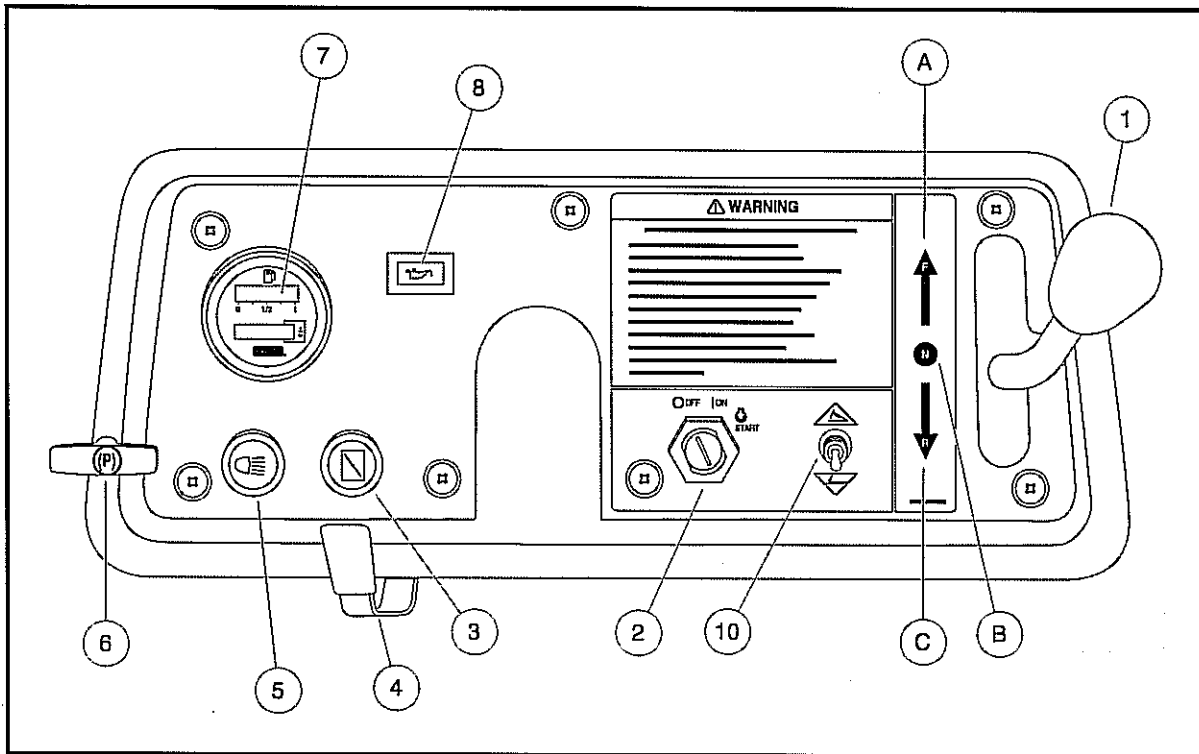
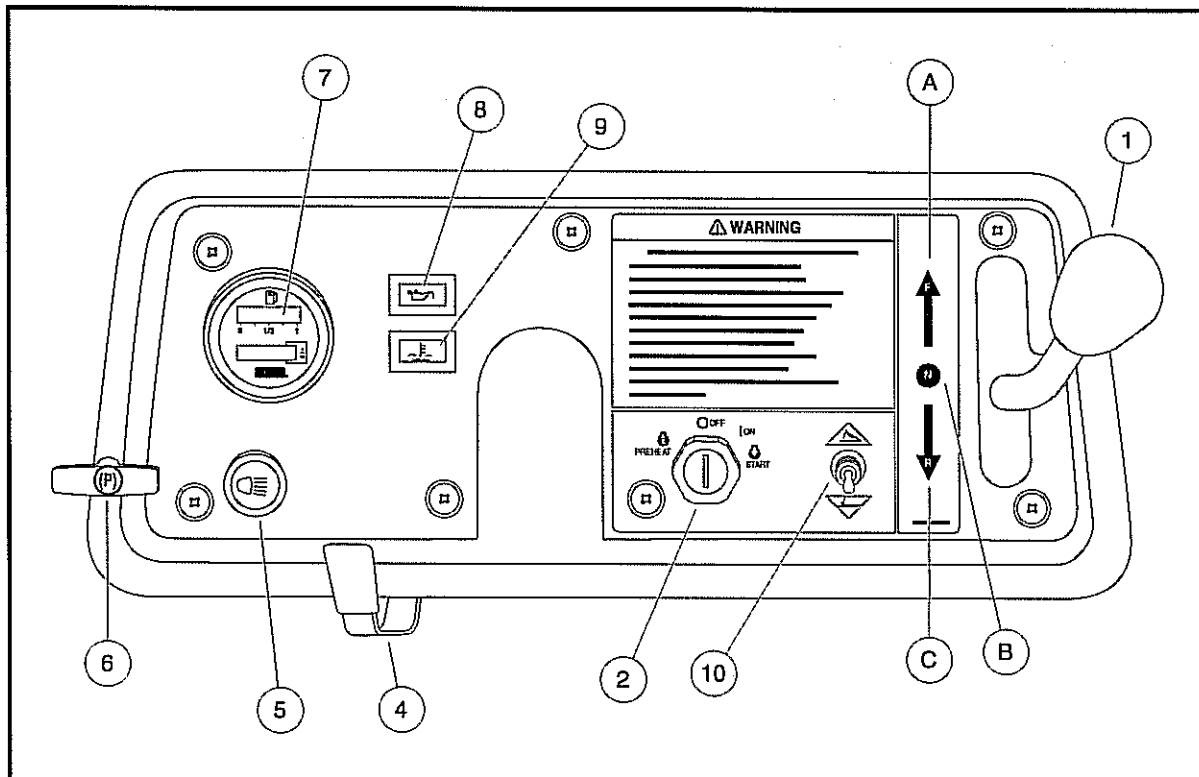

Figure 4 Instrument Panel – Gasoline Vehicles
Figure 5 Instrument Panel – Diesel Vehicles
The key switch (2) is mounted on the instrument panel to the right of the steering column (Figure 4). It has three positions: OFF, ON, and START. To start the vehicle, place the Forward/Reverse handle in the NEUTRAL position and turn the key all the way to the START position, activating the choke (3) as necessary, and hold until the engine starts. If the engine does not start after 10-15 seconds, release the key and repeat the procedure. Once the engine starts, release the key and it will return to the ON position. The engine will idle in
The key switch (2) is mounted on the instrument panel to the right of the steering column (**Figure 5**). It has four positions: PREHEAT, OFF, ON, and START. To preheat glow plugs in cold weather, turn the key to the PREHEAT position and hold for 10-15 seconds. Then turn the key all the way to the START position and hold until the engine starts. If the engine does not start after 10-15 seconds, return the key to the OFF position and repeat the procedure. Once the engine starts, release the key and it will return to the ON position. The engine will idle in neutral. The engine will continue to idle until the key is turned to the OFF position. See following **WARNING**, **CAUTION** and **NOTE**.
The Forward/Reverse handle (1) is located on right-hand side of the instrument panel. The handle has three distinct positions: FORWARD (A), NEUTRAL (B), and REVERSE (C) (**Figure 4** or **Figure 5**). Push the handle up to operate the vehicle in the forward direction, or pull the handle down to operate the vehicle in reverse. The engine can be started only when the handle is in the NEUTRAL (middle) position. The engine must be at idle before shifting the Forward/Reverse handle. See **WARNING** and **CAUTION** beginning on page 13.
The low oil warning light (8) is located on the instrument panel just to the left of the steering column (**Figure 4 or Figure 5**). If the warning light comes on, oil should be checked and added to the engine as necessary before continuing to use the vehicle. The vehicle should never be driven when the low oil warning light remains on. If the warning light goes on and off, the vehicle may be driven, but oil should be added at the first opportunity. If the oil level is correct and the warning light stays on, have a trained technician check the vehicle. **See following CAUTION.**
The electric bed lift switch (10) is located on the dash panel, to the right of the key switch (2) (Figures 4 and 5, Page 14). The bed lift can be operated while the key switch is in either the OFF or ON position.
The fuel gauge and hour meter (7) are housed together at the left side of the instrument panel (Figure 4 or Figure 5, Page 14). The fuel gauge operates when the key switch is in the ON position, and allows the operator to monitor the fuel level in the vehicle. The hour meter operates only when the engine is running, and should be used by the trained technician to track vehicle usage and determine when periodic service procedures are required. **See Periodic Service Schedule on page 29.**
The headlight control (5) is located on the left side of the instrument panel below the fuel gauge/hour meter (Figure 4 or Figure 5, Page 14). Pull the headlight control knob out to turn headlights on and push the knob in to turn headlights off.
The steering wheel on the HUV4420 and HUV4420-D vehicles is adjustable. To adjust the steering wheel, press down on the steering adjustment lock lever (4), then move the steering wheel to the desired position (Figure 4 or Figure 5, Page 14). While holding the steering wheel in the desired position, pull up on the steering adjustment lock lever to firmly lock the steering column in position.
The choke (3) is located on the instrument panel to the left of the steering column. If the vehicle is hard to start in cool or cold temperatures, activate choke: Pull the choke handle out to activate. Release the handle when the engine begins to run smoothly (Figure 4, Page 14).
The high-temperature warning light (9) is located on the instrument panel below the low oil warning light (8) (Figure 5, Page 14). The diesel engine is liquid-cooled; if the engine coolant has exceeded its normal safe operating temperature, the warning lamp will illuminate. If the warning light comes on, stop the vehicle and allow it to idle for approximately five minutes before stopping the engine. Contact a Husqvarna dealer/distributor or a trained technician.